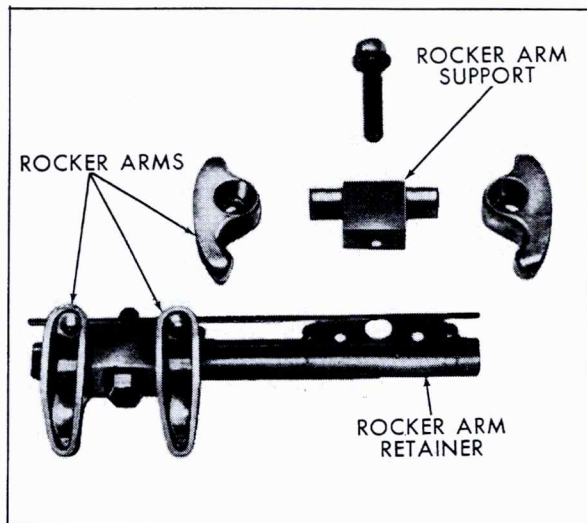

Fig. 6-114 Rocker Arms Disassembled
7. Position rocker arm on rocker arm supports, Fig. 6-114.
8. Position rocker arm assemblies on cylinder heads and secure with screws. Tighten screws to 60 foot-pounds, Fig. 6-114.